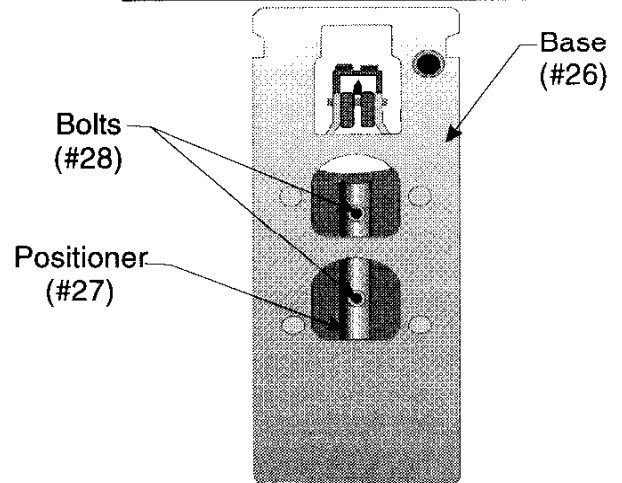

Figure 3 -- Loosening the Bolts on Positioner
- Step 2: Loosen the two BOLTS (#28) on the POSITIONER (#27) as shown in Figure 3.